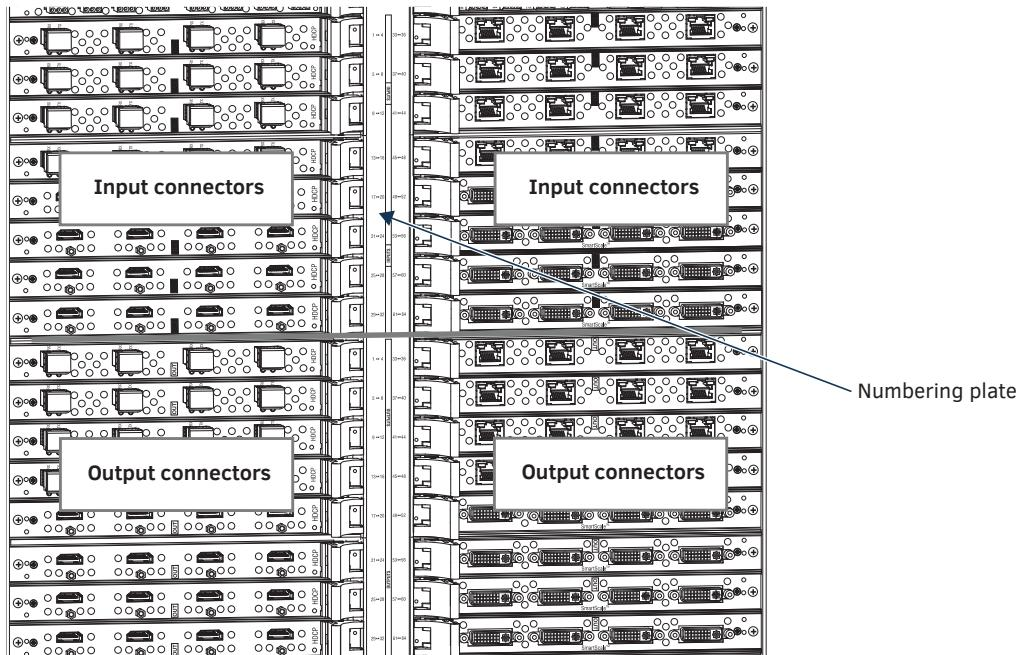

FIG. 22 Numbers on numbering plate indicate input and output board channels
- Enclosures have 32 horizontal board slots (16 slots each for the input and the output boards, with 4 connectors per board), allowing for a maximum configuration of 64x64 (FIG. 22).